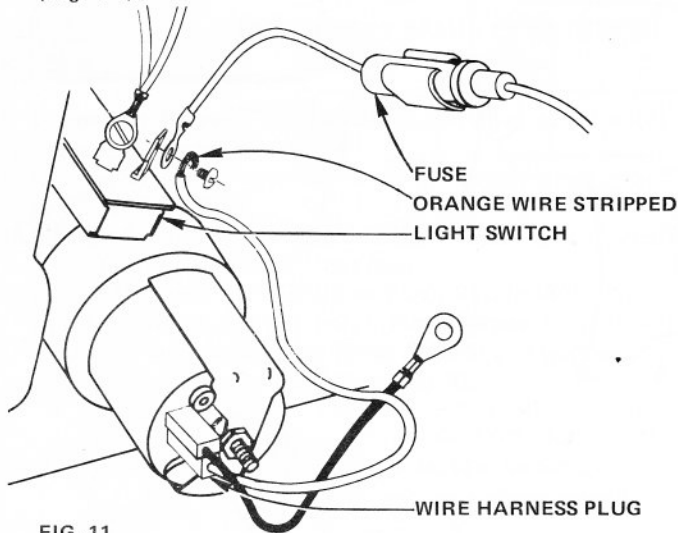

FIG. 11
1. Connect Wire Harness Plug to Service Hour Meter (Fig. 11).
2. Cut double terminal from end of orange wire of Service Hour Meter Wire Harness (Fig. 11).
4. Loosen screw terminal with single wire (from fuse) on light switch (Fig. 11).
5. Connect stripped orange wire (from Meter Wire Harness) together with the single wire (from fuse) to light switch (Fig. 11).